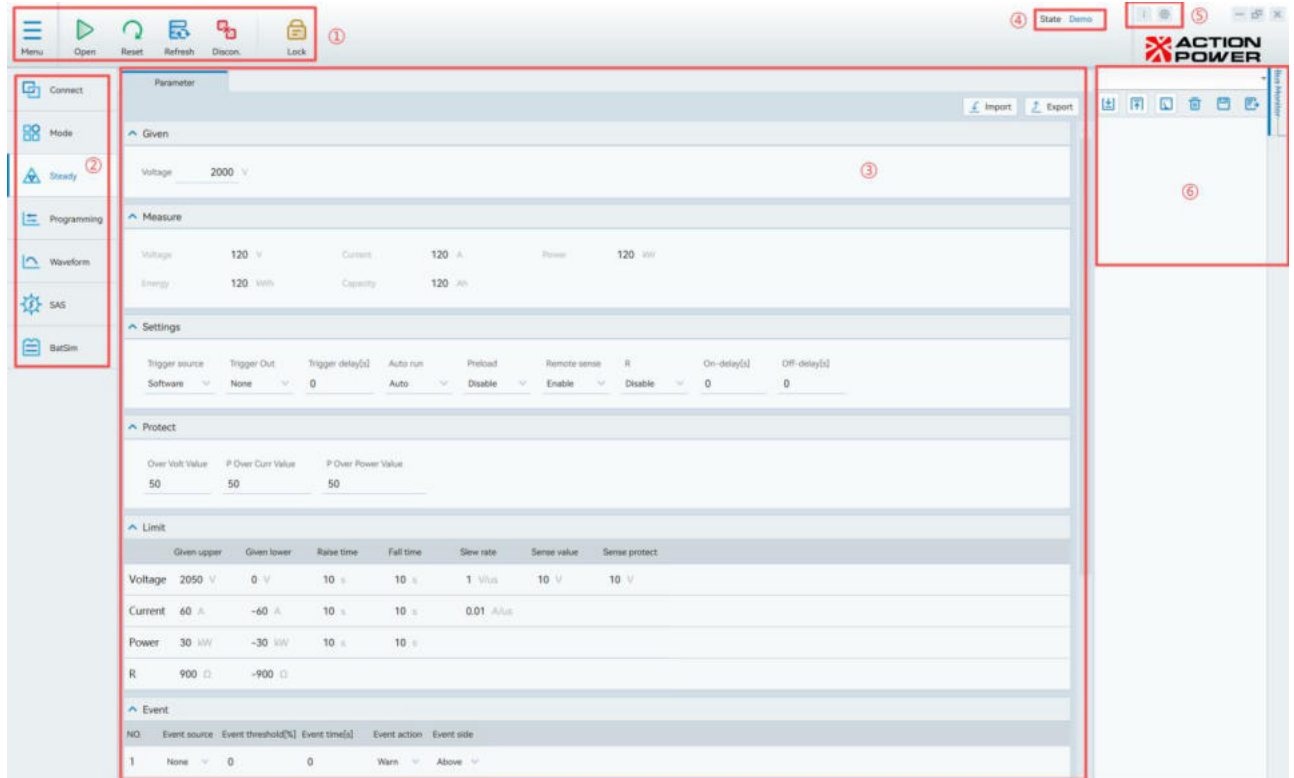

Figure 3.3 Overall Software Layout
After successfully connecting to the device, the software enters the main interface. The overall layout is shown in Figure 3.3.
As shown in Figure 3.3, the main program interface is divided into six sections:
Area ① displays navigation buttons and device operation shortcuts: Navigation: Controls menu visibility (e.g., 2 in Figure 3.3)